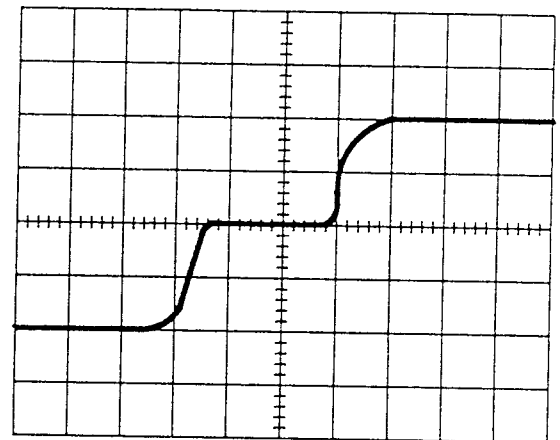

Fig. 4-3a. Pulse Without Double Strobbling
- B. Remove the 50 Ω terminator from the CABLE connector and attach the BNC probe adapter. Center the pulse with the POSITION and ZERO REF (SET) controls (see Fig. 4-3a).
- C. Verify that the leading edge of the pulse DOES NOT have double strobbling (see Figs. 4-3a and 4-3b).